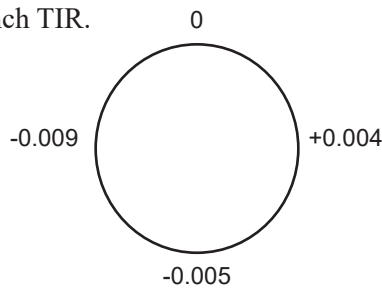

Figure 16: Example of runout readings
A total indicator reading (TIR) is the difference between the two readings on opposite sides of the shafts. For example, in Figure 16, the horizontal TIR is (-0.009) and (+0.004), which is a difference of 0.013 in. (0.330 mm) or 13 thousandths of an inch TIR. Vertical TIR is (0) and (+0.005), which is a difference of 0.005 in. (0.127mm) or 5 thousandths of an inch TIR.